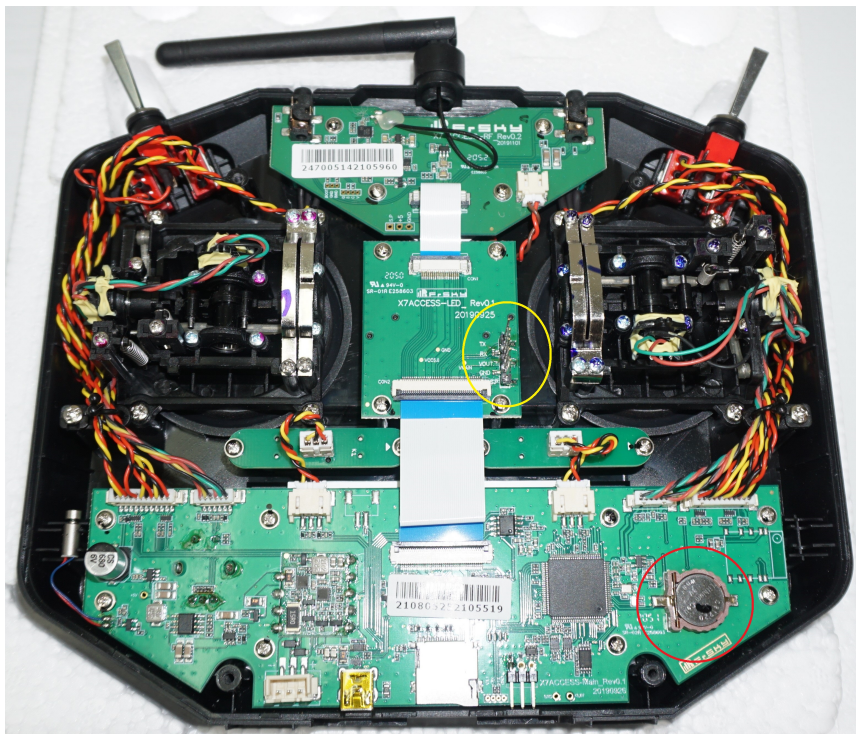

Figure 113: RCU RTC Location
8. Locate the RTC battery(circled red in Figure 113) and remove it.
10. Carefully put the two case halves together. Verify the module bay pins (circled yellow in Figure 113) slide through the slot (Figure 25).